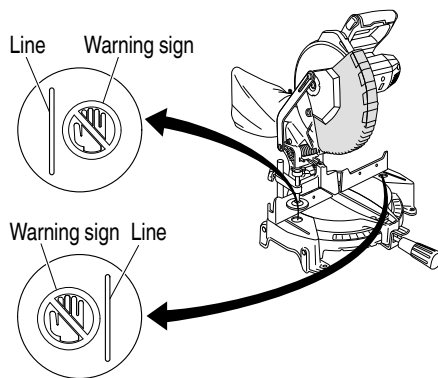

Fig. 21
- Never place your limbs inside of the line next to warning sign while the tool is being operated. This may cause hazardous conditions (see Fig. 21).